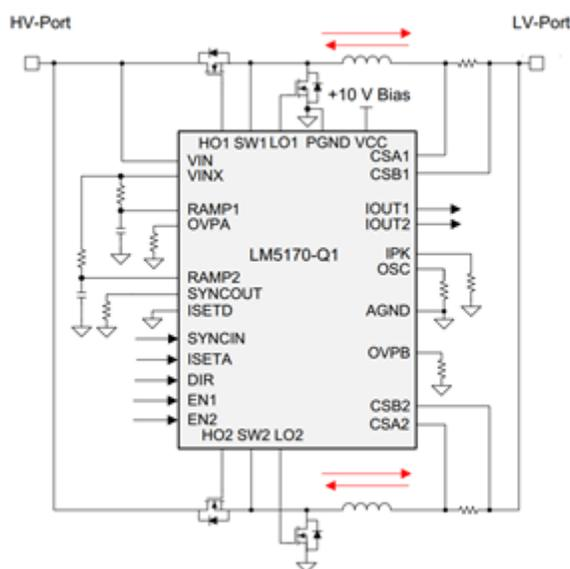

Figure 1. LM5170-Q1 Simplified Schematic
The LM5170-Q1 bidirectional current controller is a good fit for this application. This device regulates the average current flowing between the high-voltage (HV) and low-voltage (LV) port in the direction designated by a DIR pin. Figure 1 is a simplified schematic of the LM5170-Q1. The two phases' interleave topology offers up to 100A of charge or discharge current. Its integrated 5A driver helps optimize efficiency in voltage conversion, which means small power loss and good thermal performance for the system. The diode-emulation feature of the LM5170-Q1 prevents current from flowing opposite from the direction selected by the DIR pin. This feature helps protect the battery from overcharge or discharge during transient periods.